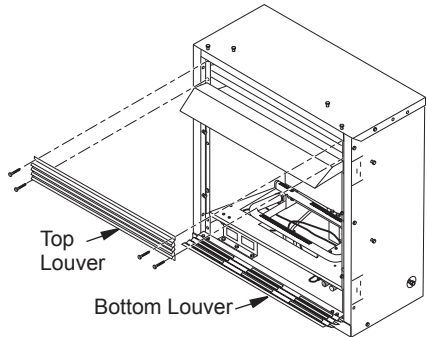

Figure 11 - Removing Top Louver and Opening Bottom Louver
1. Unscrew four screws that attach top louver to fireplace. Remove louver from fireplace and set aside (see Figure 11).
2. Remove 4 screws from upper louver (see Figure 11, page 12). Save these screws.
4. Open lower louver door by swinging door down (see Figure 11, page 12).
- Reinstall upper louver beginning with bottom screws (see Figure 11, page 12). Close lower louver door.
6. Reinstall upper louver beginning with bottom screws (see Figure 11, page 12) and close lower louver.